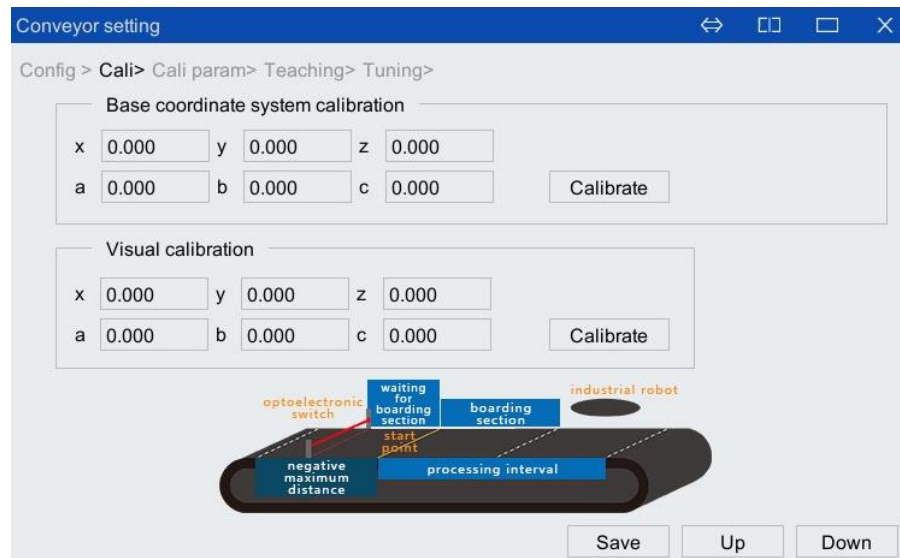

Figure 5-30 Conveyor belt calibration interface
Step2. Click <Down> to enter the [Cali] interface, and click the <Calibrate> button in the upper part of [Base coordinate system calibration]. As shown in Figure 5-30.